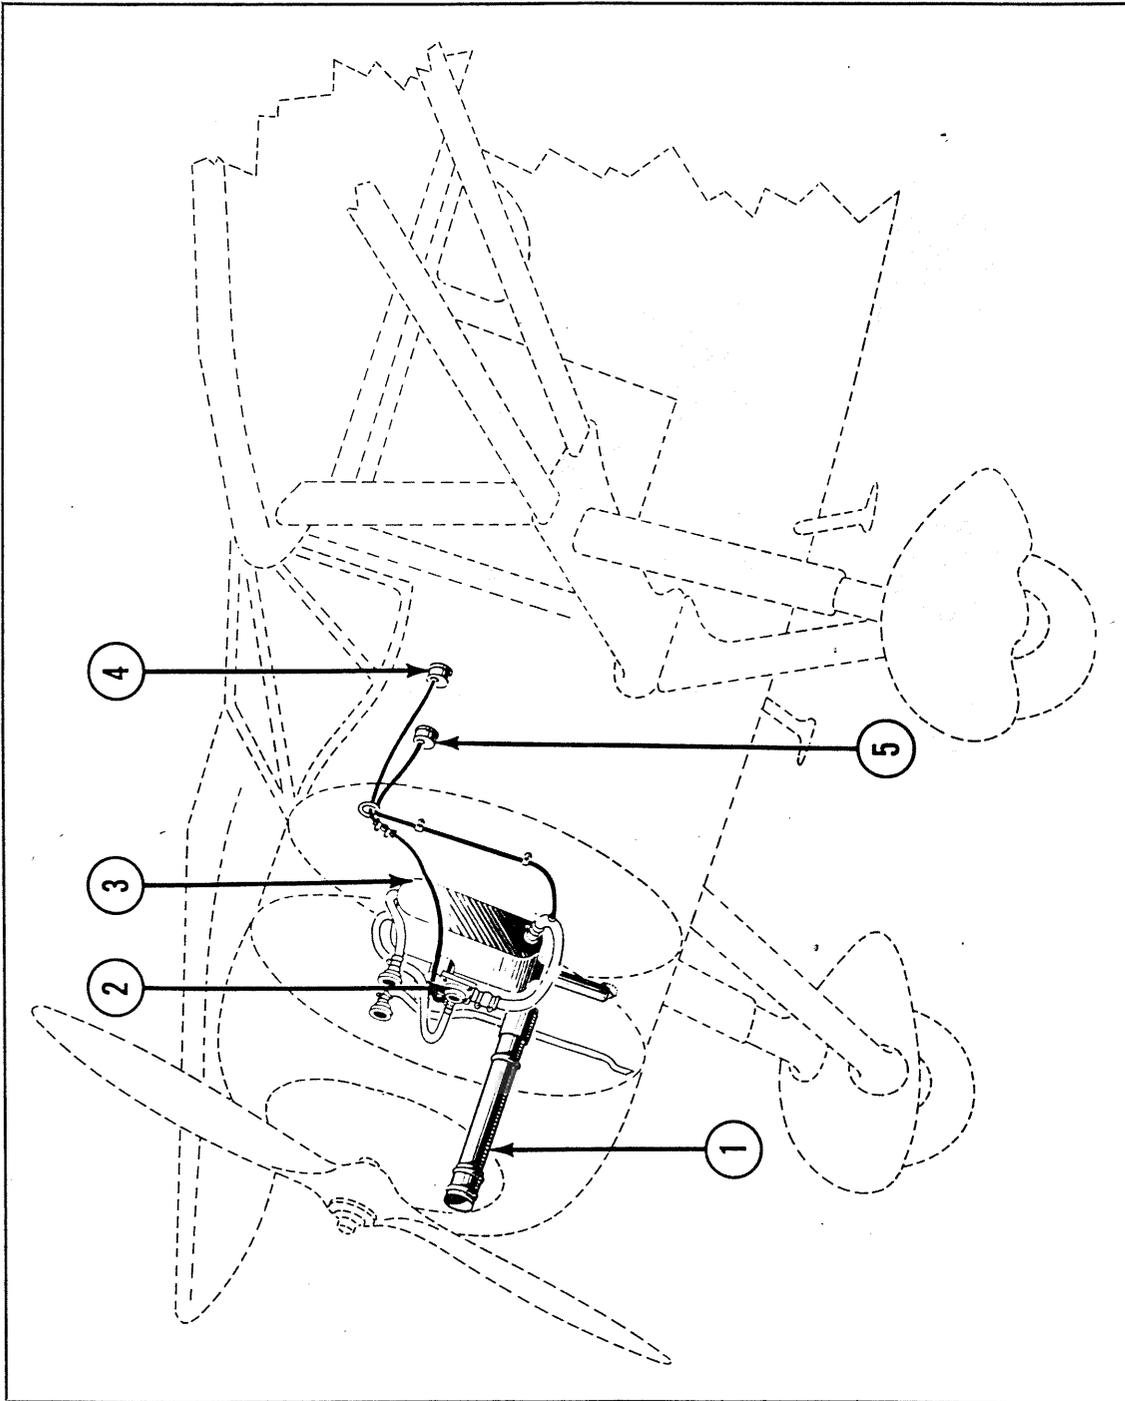

Figure 1-7—Warner Oil System
**3. OIL SYSTEM.** (See figures 1-7 and 1-8.) Both engines are of the dry sump type and the oil is carried in a tank mounted on the engine mount for the Ranger model and on the firewall for the Warner model. Oil capacities for both models is 4.1 gallons plus expansion space. The 24W46 and 24R46 can be operated under normal temperature conditions with SAE grade 50 oil. In temperatures below 20° F with SAE grade 40; in warm temperatures SAE grade 60 should be used.